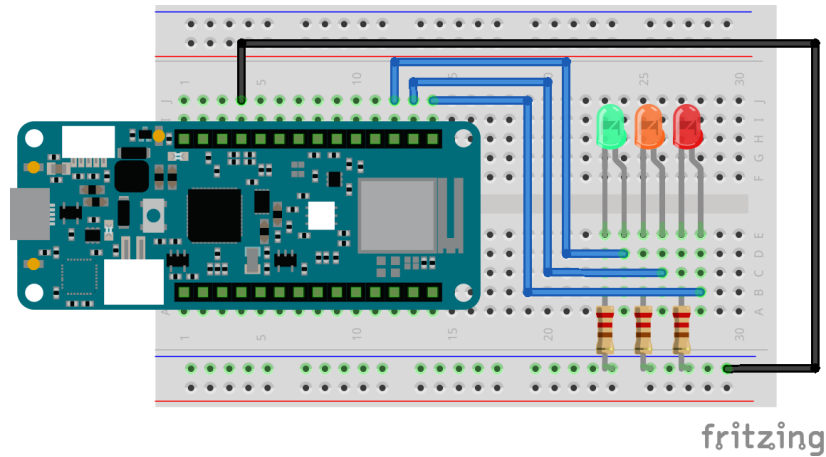

Figure 7 – Controllable LEDs
- a) Write an Arduino sketch to replicate the sequence of a single set of traffic lights. Make sure you tweak the timings of the LEDs so that the delays are as realistic as possible. You can use the circuit in Figure 7 below.